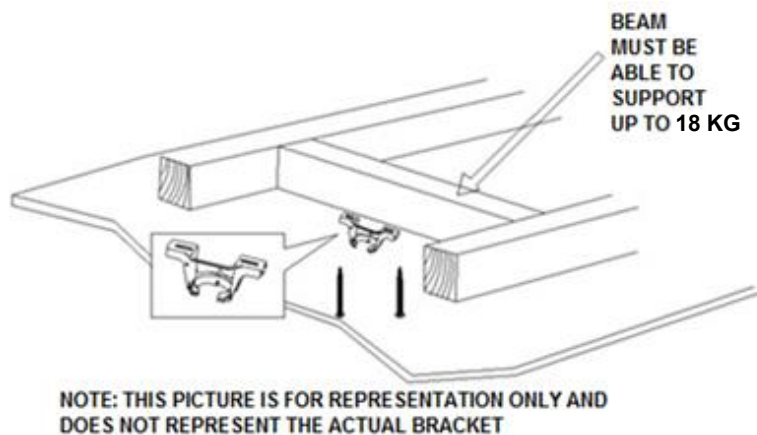

Fig. 2
- Install the hanging bracket to the ceiling joist or structure that is capable of carrying a load of at least 18 kg, with two long screws provided. Ensure at least 30mm of the screw is threaded into the support. (Fig. 2)